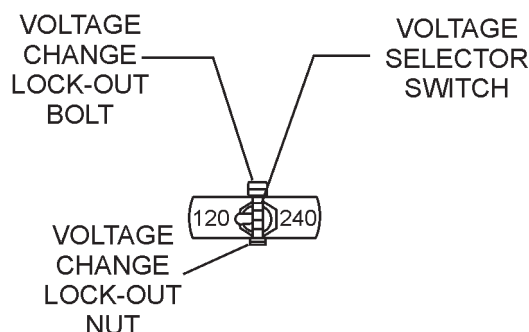

Figure 5. Voltage Change Switch
2. Remove the voltage change lock-out bolt and nut (Figure 5). Change the position of the voltage change toggle switch from 120 VAC to 240 VAC. The mixer is factory wired for 120 VAC operation.